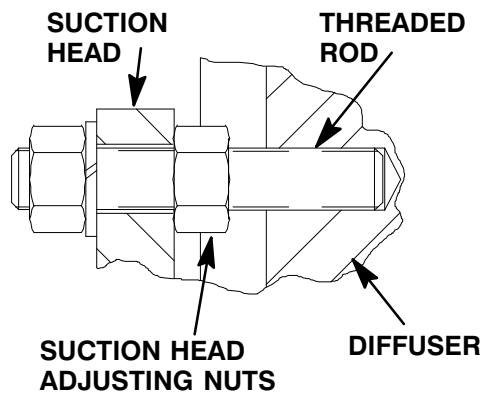

Figure 4. Suction Head Adjustment Detail
See Figure 4 and install the suction head adjusting nuts (3) on the threaded rods (2). Position the suction head over the threaded rods and press it into the diffuser until fully seated against the adjusting nuts.